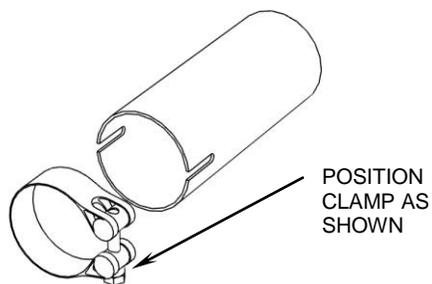

FIGURE 2
5. Place the supplied 27-61msc clamp onto the lower muffler slip collar then slide the rear headpipe / muffler assembly onto the front headpipe and into the rear exhaust port. Bolt rear headpipe to the rear cylinder using the stock acorn nuts from Step 1. See Figure 2 for clamp orientation.
9. To install the front heatshield, first slide the rear portion of the heatshield over the muffler, continue to slowly slide it forward pushing the front of the shield gently into place between the frame and motor (Hint: Spread the hose clamps apart slightly to make it easier to slide them over the muffler assembly and headpipes). Make sure the muffler clamp doesn't interfere with the heatshields and is aligned as shown in Figure 2. Snug the heatshield clamps but **DO NOT TIGHTEN.**